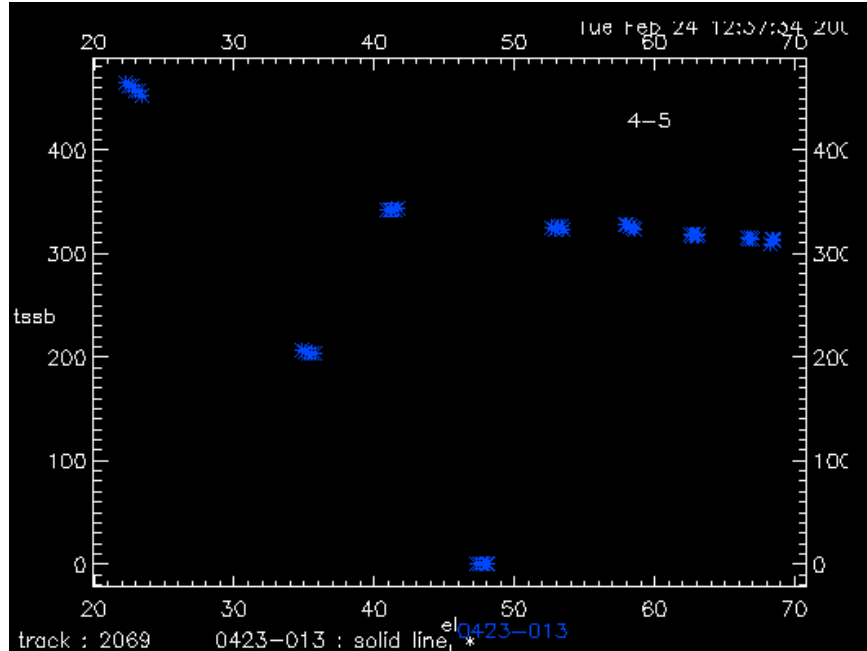

Figure 1: Bad Tsys values
2. Sometimes `tsys` values are not bad for the whole baseline but only a few data values, as shown in Figure 1.
Figure 1 has already ignored all no-`tsys` points (i.e. those absurd high points), but still some bad `tsys` values around el 30-50 exist. Those